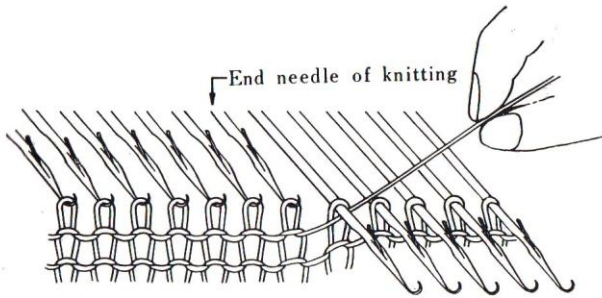

Fig. 51
(See Fig.51.)
3) Pass the yarn under the stem of the first needle which were not knitted. (See Fig.51)